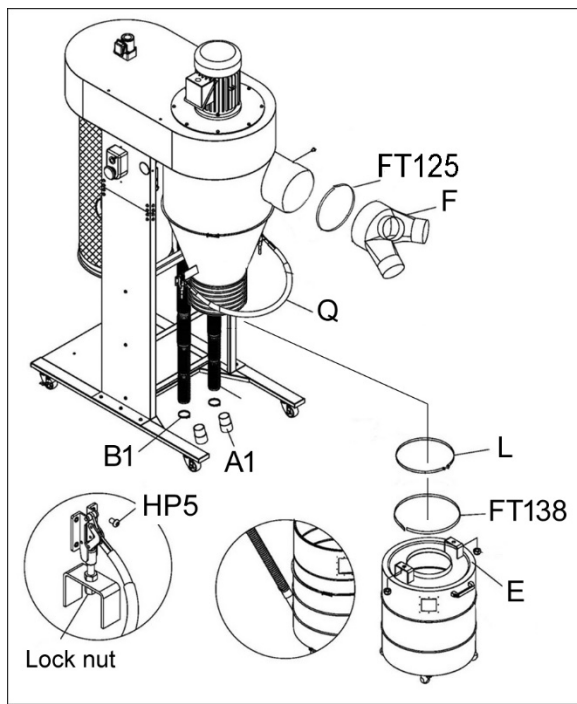

Figure 5-9
16. Paste 1Wx25L inch foam tape (FT125) around the inlet port at its edge. Trim excess. See Figure 5-9.
17. Push inlet adaptor (F) onto housing inlet and tighten with screw.
18. Paste 1Wx38L inch foam tape (FT138) around flange of drum lid (E).
19. Roll drum beneath cone and work hose on to drum lid. Secure with hose clamp (L).
20. Install quick lever (Q) to flanges of cone with button head screws (HP5, see inset). Then connect bottom of handle to drum lid with hex nut on top and lock nut underneath.